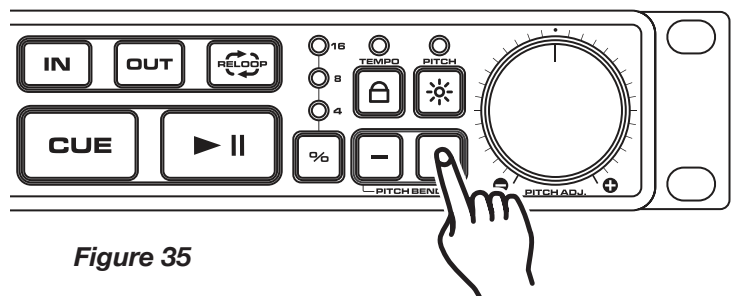

Figure 35
3. PITCH BEND BUTTONS (12):
The (+) *PITCH BEND BUTTON (12)* will increase track playback speed and the (-) *PITCH BEND BUTTON (12)* will decrease track playback speed. The extent to which the speed changes is proportionate to the amount of time the button is pressed. For example, if the (+) *PITCH BEND BUTTON (12)* is held down continuously as in Figure 35, the speed will increase and will continue to increase until it reaches the percentage the *PITCH PERCENTAGE BUTTON (13)* is set to. When you release the (+) *PITCH BEND BUTTON (12)* the speed will automatically return to it's previous set speed.